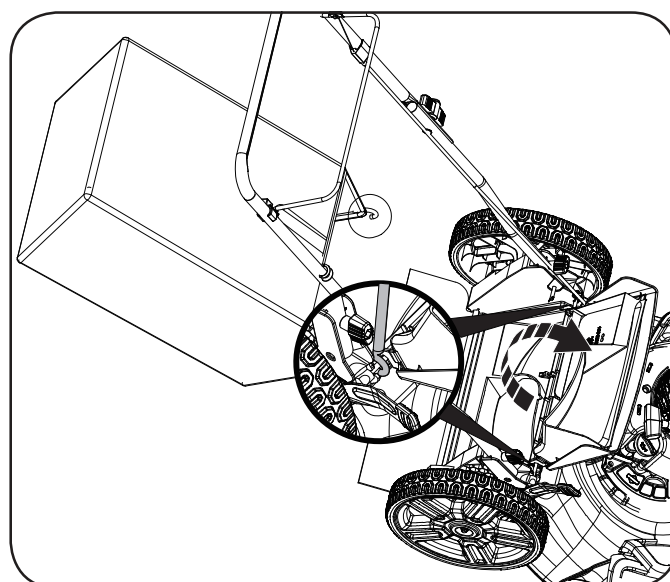

Figure 7
- b. Place grass catcher into the slots in the handle brackets (Figure 7).